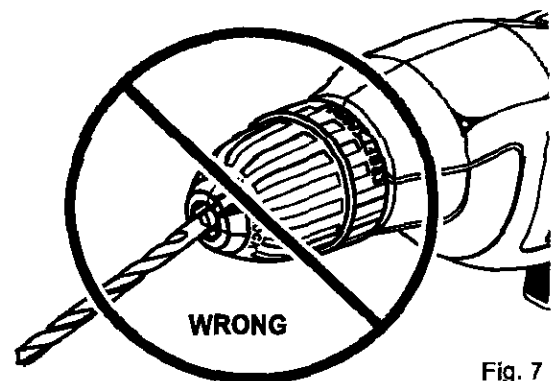

Fig. 7
**WARNING:** Do not insert drill bit into chuck jaws and tighten as shown in figure 7. This could cause drill bit to be thrown from your drill resulting in possible serious personal injury or damage to your chuck.